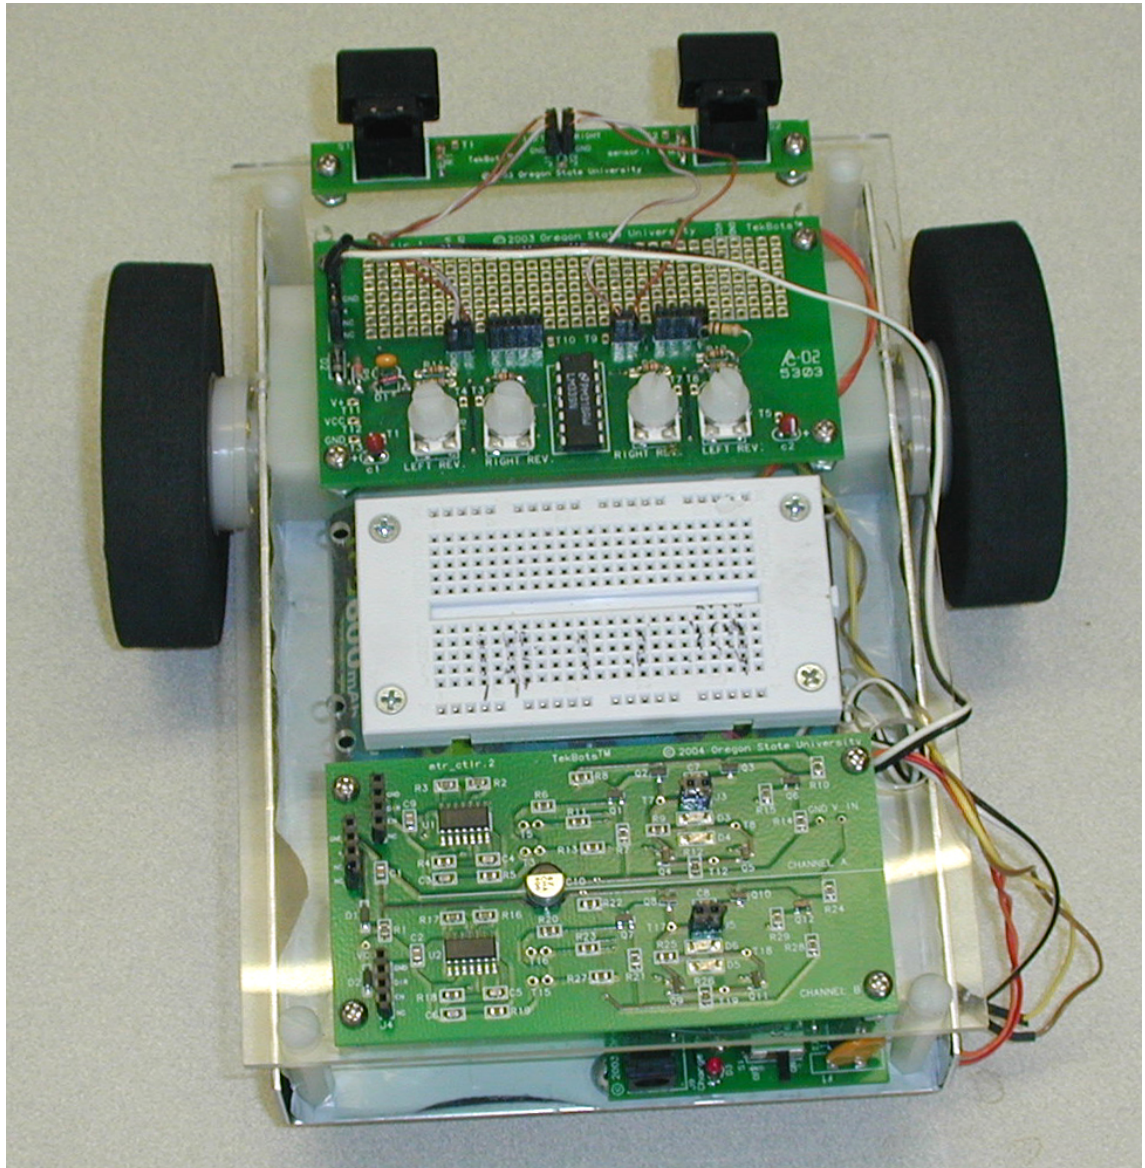

Figure 5. Motor Control Board and Breadboard
2. The Plexiglas layer attaches to the base of your robot using 8-32 Nylon bolts and the nylon standoffs. Bring the wires from the motors and the power cable through the hole in the Plexiglas. Figure 5 shows the placement of the breadboard and motor control board on the Plexiglas.